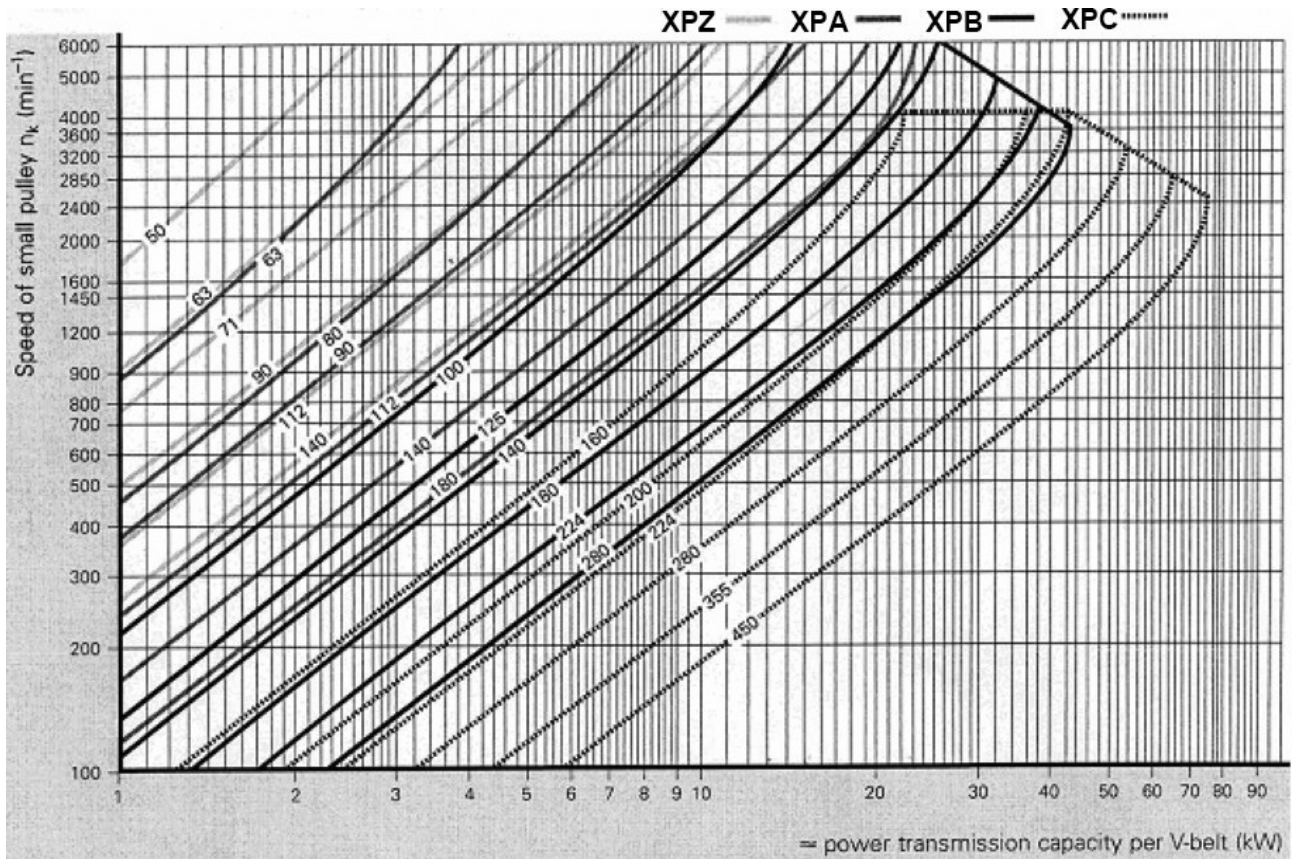
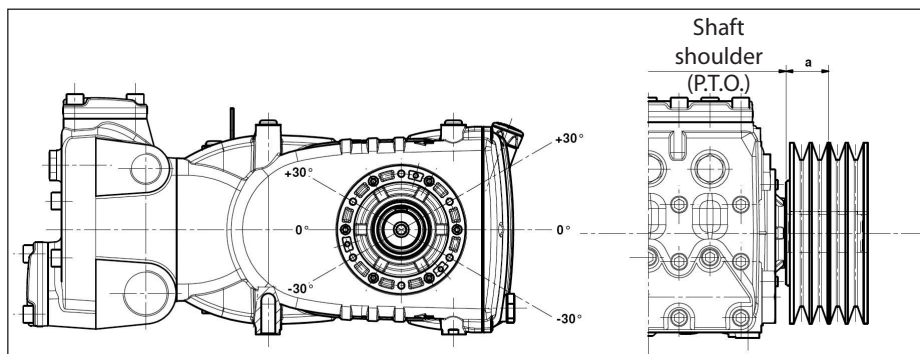

Fig. 7
Fig. 10
The pump can be controlled by a V-belt system. For this pump model, we recommend use of 4 XPB belts (16.5x13 serrated). Use an XPC profile only for long durations. Both the characteristics and transmissible power of each belt can be verified in the diagram in Fig. 7, in relation to the number of rpm normally declared by the manufacturer. Minimum duct pulley diameter (on pump shaft): ≥ 250 mm. The radial load on the shaft must not exceed 7500 N (value necessary for Layout definition). The transmission is considered adequate if the load is applied to a maximum distance $a=40$ mm from the shaft shoulder (P.T.O) as shown in Fig. 10.
- b) Use high performance belts – for example **XPB** instead of **SPB** – as a lower quantity of belts for the same transmitted power may be necessary and a consequent shorter resulting distance compared to the shaft shoulder (P.T.O) "a" of Fig. 10.